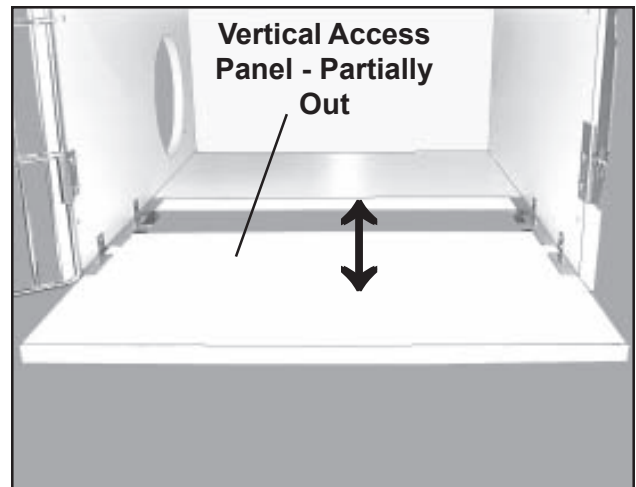

Figure 37. Horizontal Access Panel Being Removed or Installed
2. Slide the floor panel into or out of the cage floor, as desired (Figure 37). **Note:** Sliding the access panel out and in can be a tight fit. If necessary, slightly loosen the four hinge plate screws (Figure 39) and gently move the door slightly upward.